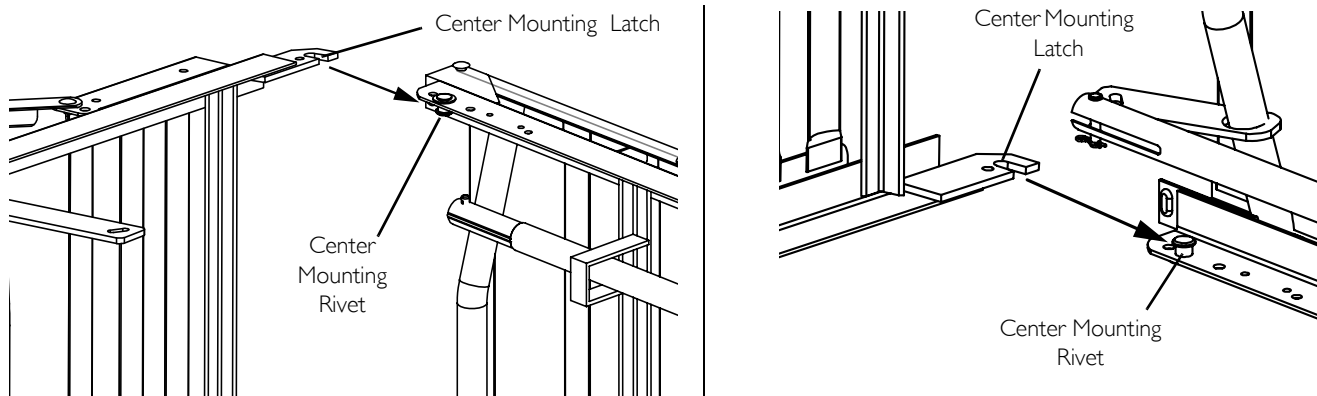

FIGURE 4 Inspecting - Assembling the Head and Foot Sections
6. Hook the bottom head section center mounting latch to the bottom foot section center mounting rivet (FIGURE 4).
7. Hook the top head section center mounting latch to the top foot section center mounting rivet (FIGURE 4).